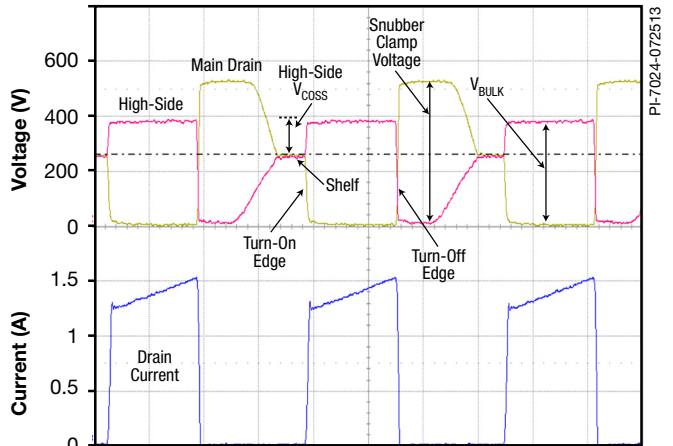

Figure 28. Typical Full Load Waveforms of the Main Drain. High-Side MOSFET Source, and Drain Current.
Repeat the measurements at full load. Be cautious of over-heating the power supply and use a strong fan. Measure the source voltage (HS) of the high-side MOSFET at turn-on for each steady-state switch cycle (Figure 28). It should be < 40% of the bulk voltage. Calculate and verify the K_p from the current waveform and verify with the spreadsheet. Also check the peak current at peak load – do not dwell at peak load for more than several seconds to prevent over-heating.